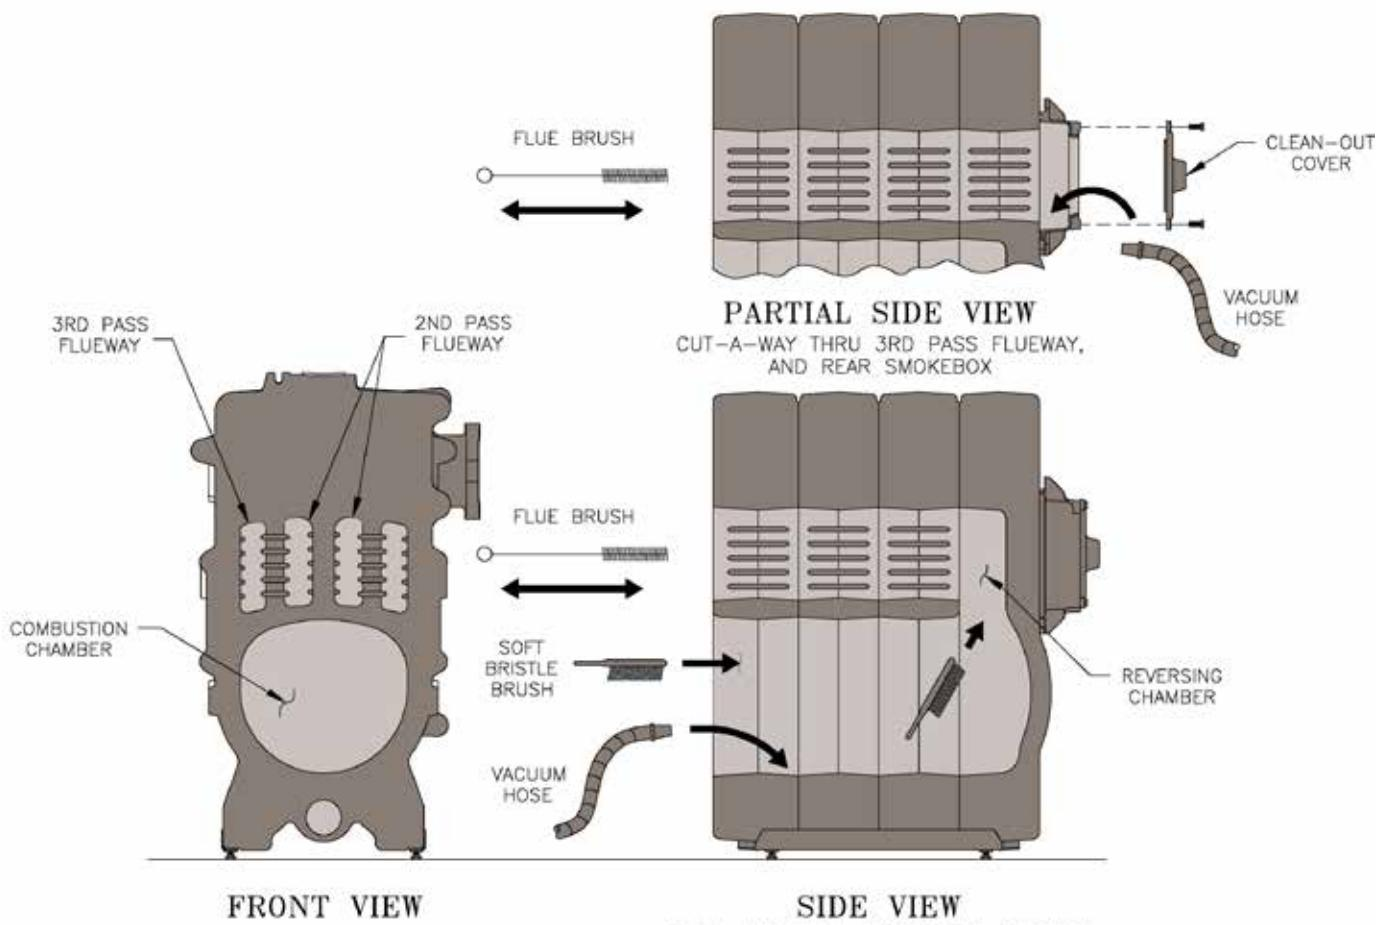

Figure 28: Cleaning Boiler Flueways and Combustion Chamber Surfaces
- A. CLEAN THE FLUEWAYS (See Figure 28).
1. For access to the combustion chamber remove the two (2) 3/8" - 16 cap screws. If boiler is equipped with flexible fuel line(s), swing door open.